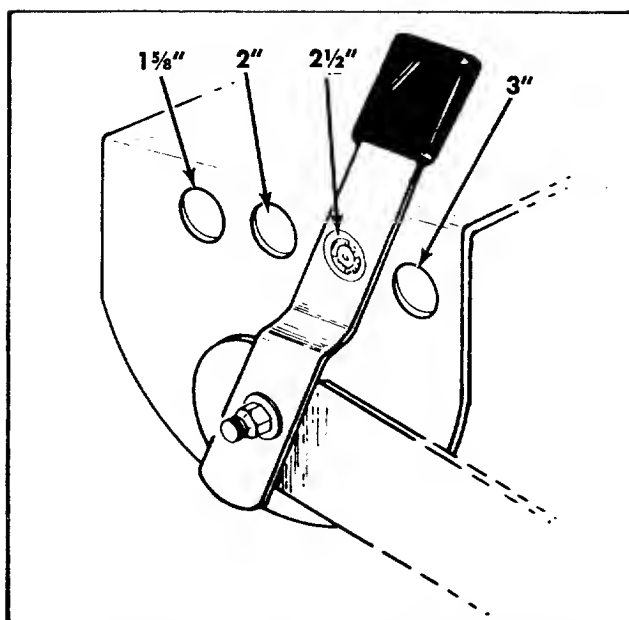

FIGURE 13. WHEEL HEIGHT ADJUSTER
**Wheel Height Adjuster. 30-inch cut.** Move the lever towards the wheel and set it in the desired cutting height position. See figure 13. Both wheels must be in the same relative position.